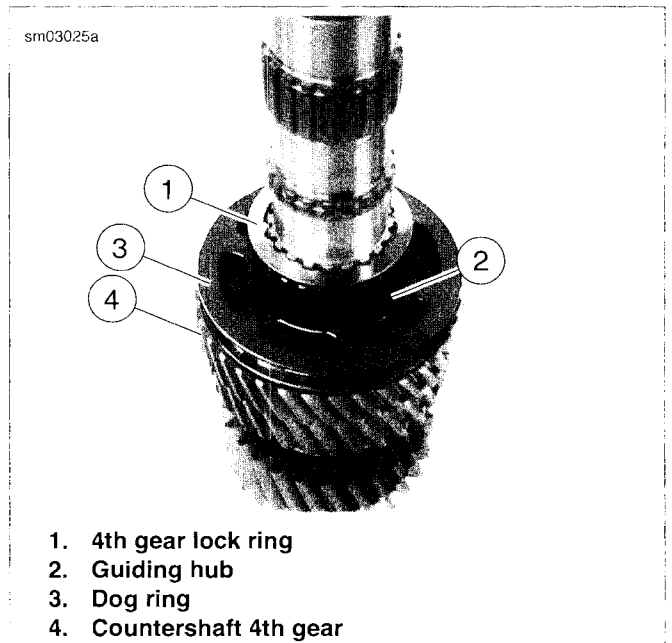

Figure 6-22. Countershaft Assembly
See Figure 6-22. Note the direction that the 4th gear locking ring is installed.
1. See Figure 6-22. Install **new** needle bearing, countershaft 4th gear (4), guiding hub (2), dog ring (3) securing segments and internal splined washer (1) on countershaft.